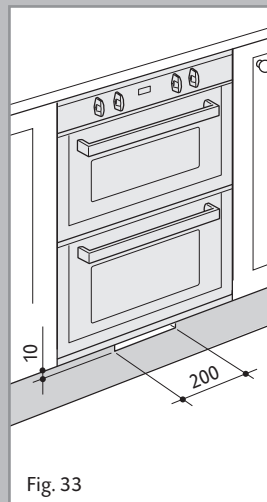

Fig. 33
**If installing a base panel leave a space as indicated in fig. 33 to allow air circulation.**